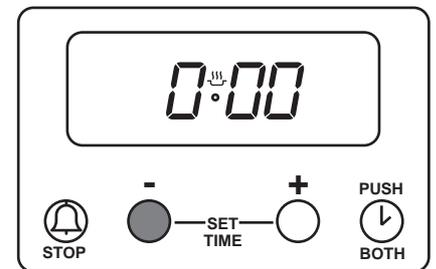

Fig. 6
To set, press button (1) and the display will read 0h:00, see Fig. 6.